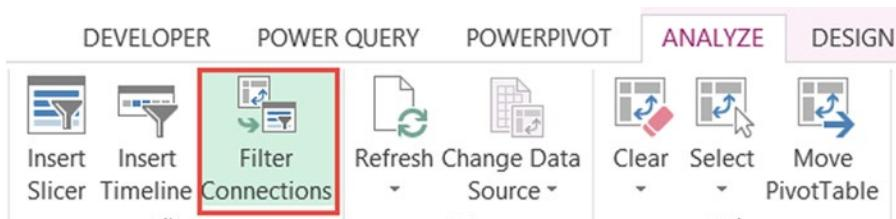

Figure 22-16. Filter Connections option on the Analyze tab
2. Select Analyze ▶ Filter Connections from the ribbon (Figure 22-16).